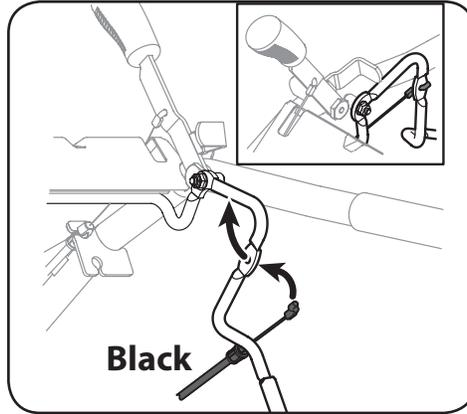

Figure 3-7
2. The forward clutch control cable (black) is hanging loosely near the right-side wheel. Being careful not to kink or stretch the cable, route the cable on top of the lower handle and under the handle panel then insert the z-connector into the hole at the end of the forward clutch control linkage going from the outside inward. See Figure 3-7.